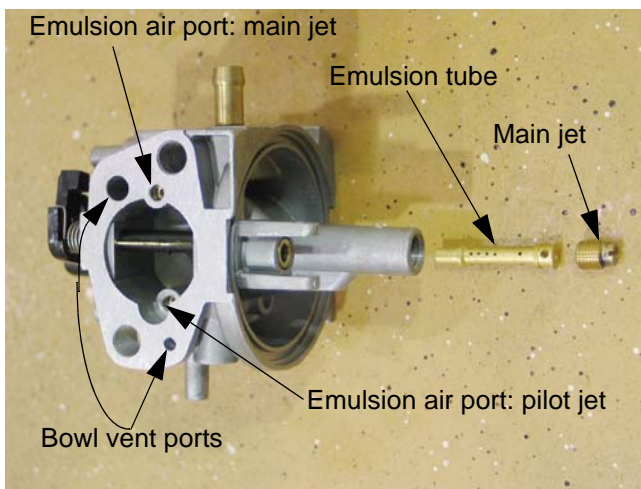

Figure 8.31
- 8.31. The main jet secures the emulsion tube in the central column of the carburetor. See Figure 8.31.